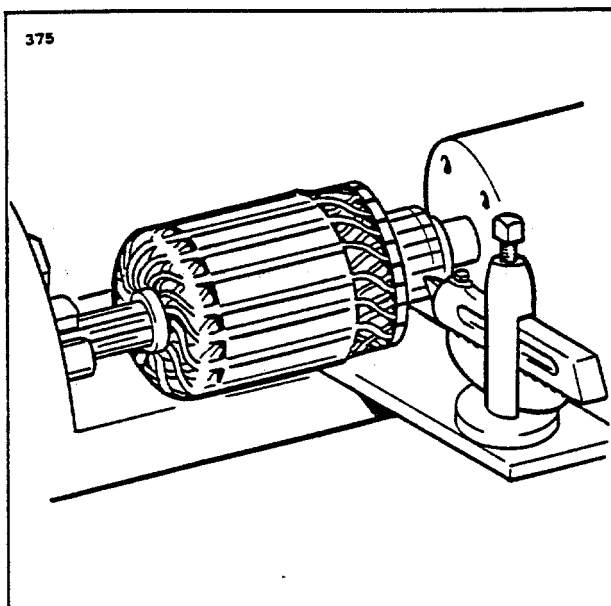

Figure 11-21. Turning Motor Commutator
a. Check the commutator for uneven wear, excessive glazing or evidence of excessive arcing. If only slightly dirty, glazed or discolored, the commutator can be cleaned with 00 or 000 sandpaper. If the commutator is rough or worn, it should be turned in a lathe. Refer to Figure 11-21. The armature shaft should be inspected for rough bearing surfaces and rough or damaged splines.